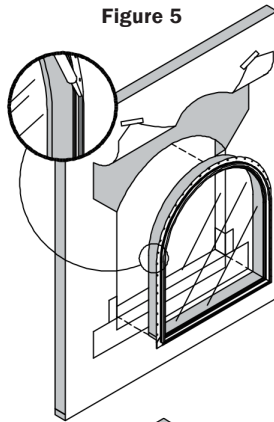

Figure 5
**SHIMMING:** Sill shims are to be applied at each jamb and any mulls on multiple wide units. Units wider than 24" must also be shimmed at the center of the sill (fig. 5)
Apply a continuous bead of sealant, approximately 3/8" in diameter, to the back of the mounting flange and in line with the mounting holes. Alternatively, sealant can also be applied to the R.O. to line up with the holes on the mounting flange (fig. 5).